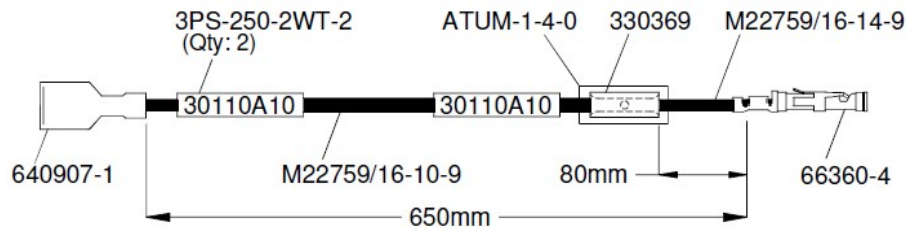

Figure 29: Wire Preparation for the Relay
12.2.4.2 Prepare the remaining relay wire according to Figure 29.